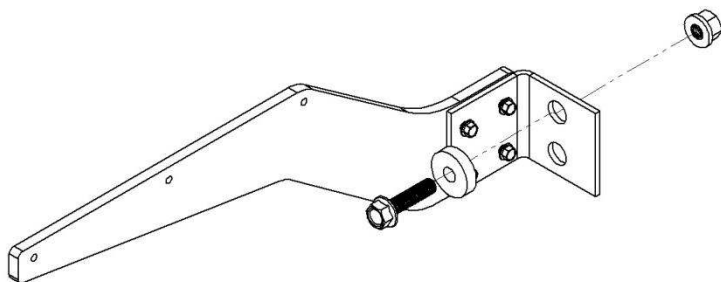

Figure 7
- D. Install center bracket assembly (Figure 7).